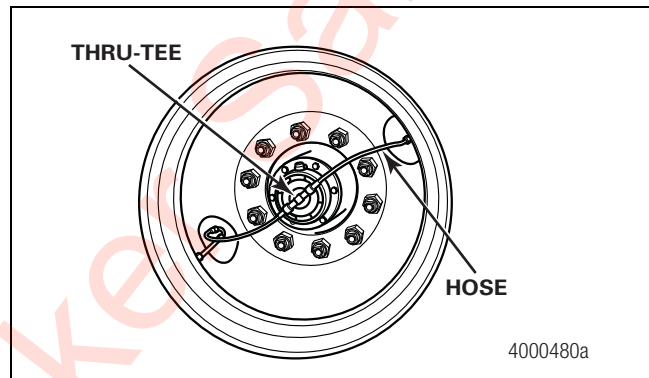

Figure 4.7
7. Check the wheel ends to verify that the tire inflation system hoses do not contact the wheels. Figure 4.7.
- If a hose contacts a wheel: Use a torque wrench set to 55 lb-in (6.2 N•m) to slightly rotate the thru-tee to reposition the hose away from the wheel. ①